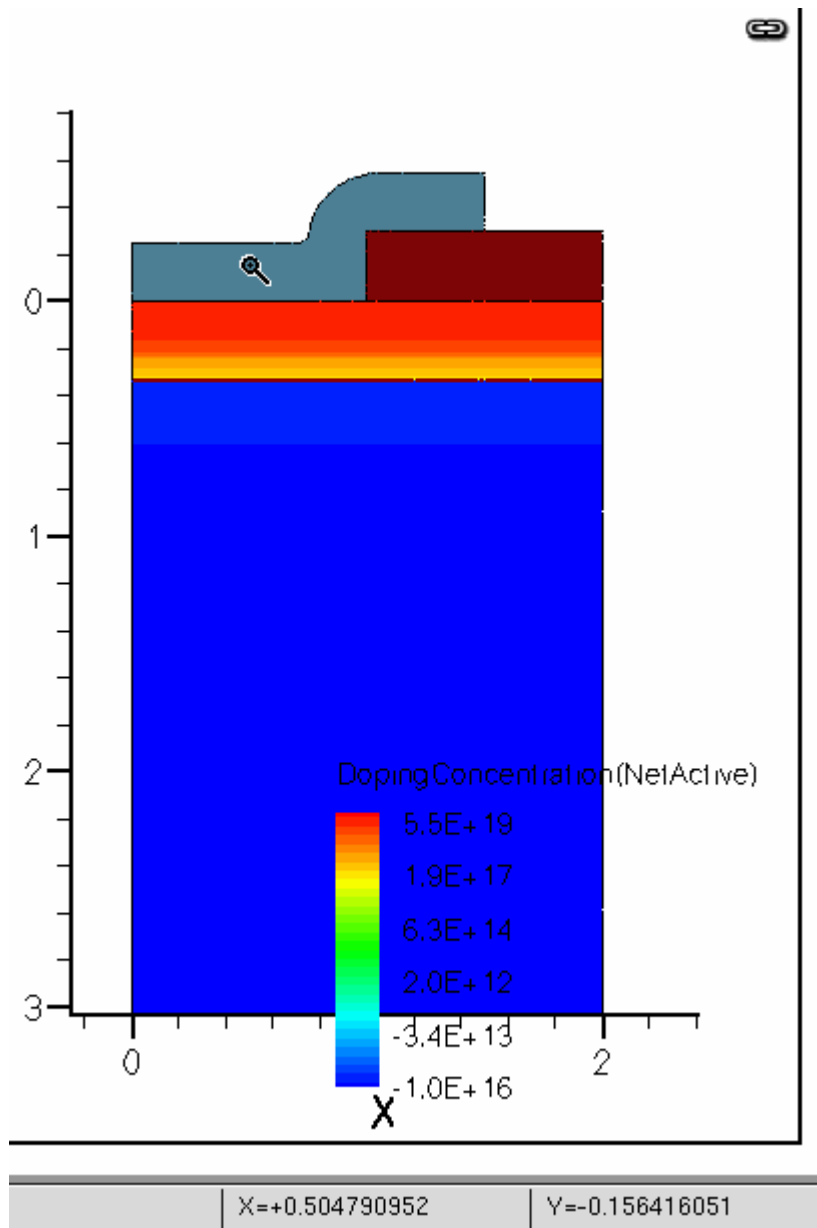

Figure 97: Complete device.
25. Add a photoresist strip step. Your results should look like Figure 97.